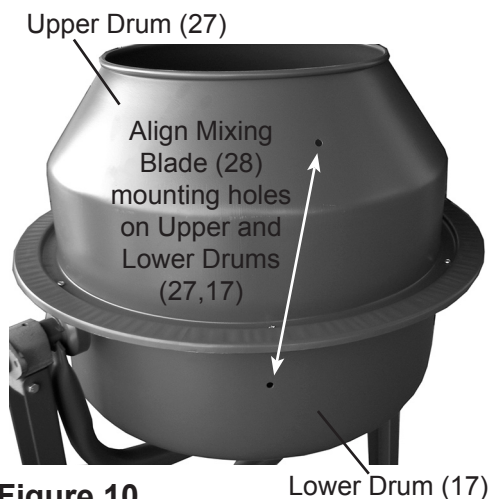

Figure 10
Note: When placing the Upper Drum, align the Mixing Blade (28) mounting holes in the side of the drums as shown in Figure 10. If they are too far away from each other, the Mixing Blades holes will not match up with the mounting holes on the Drums.
- c. Secure the six Bolts in place with Spring Washers (34) and Nuts (35).